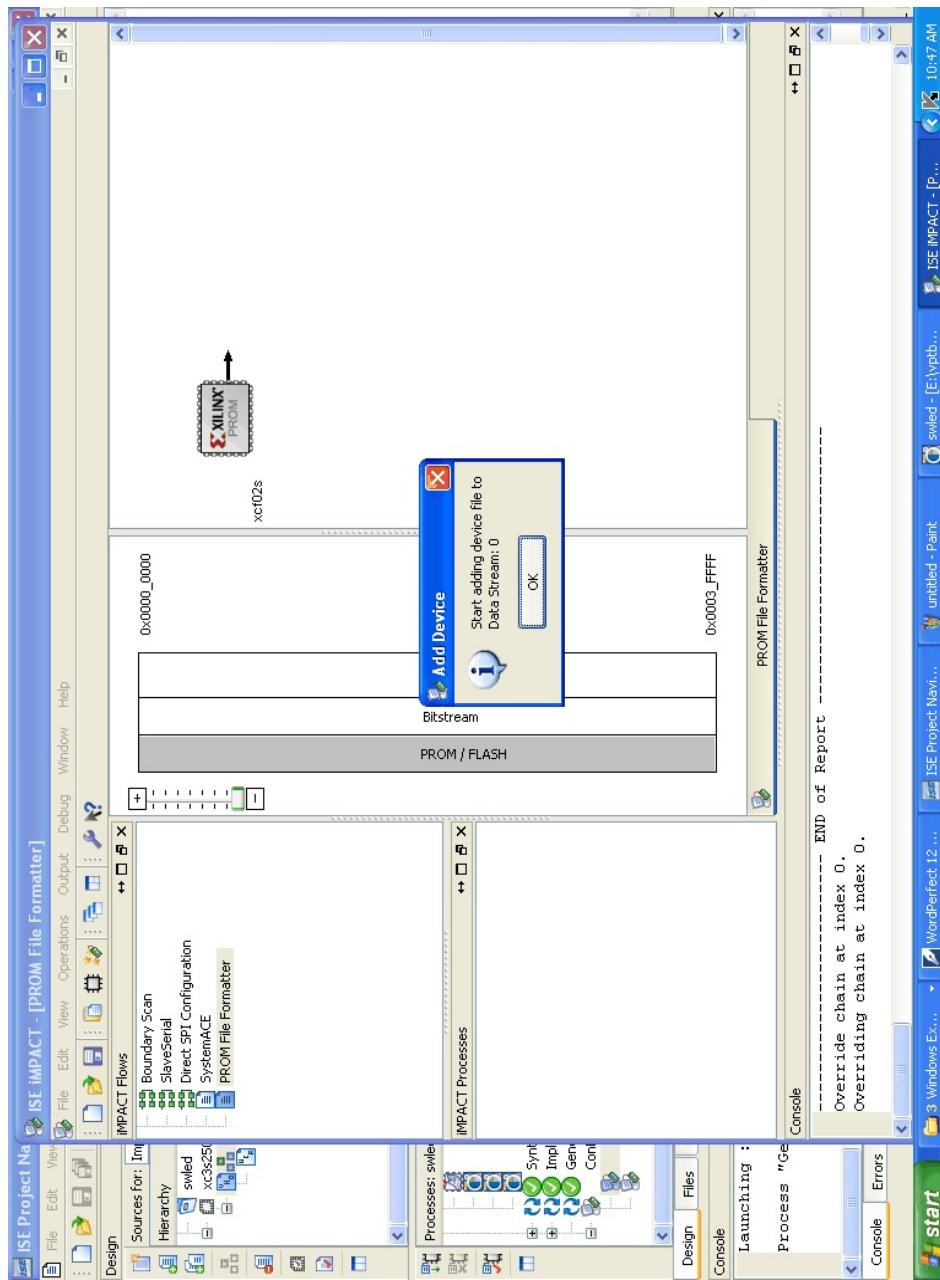
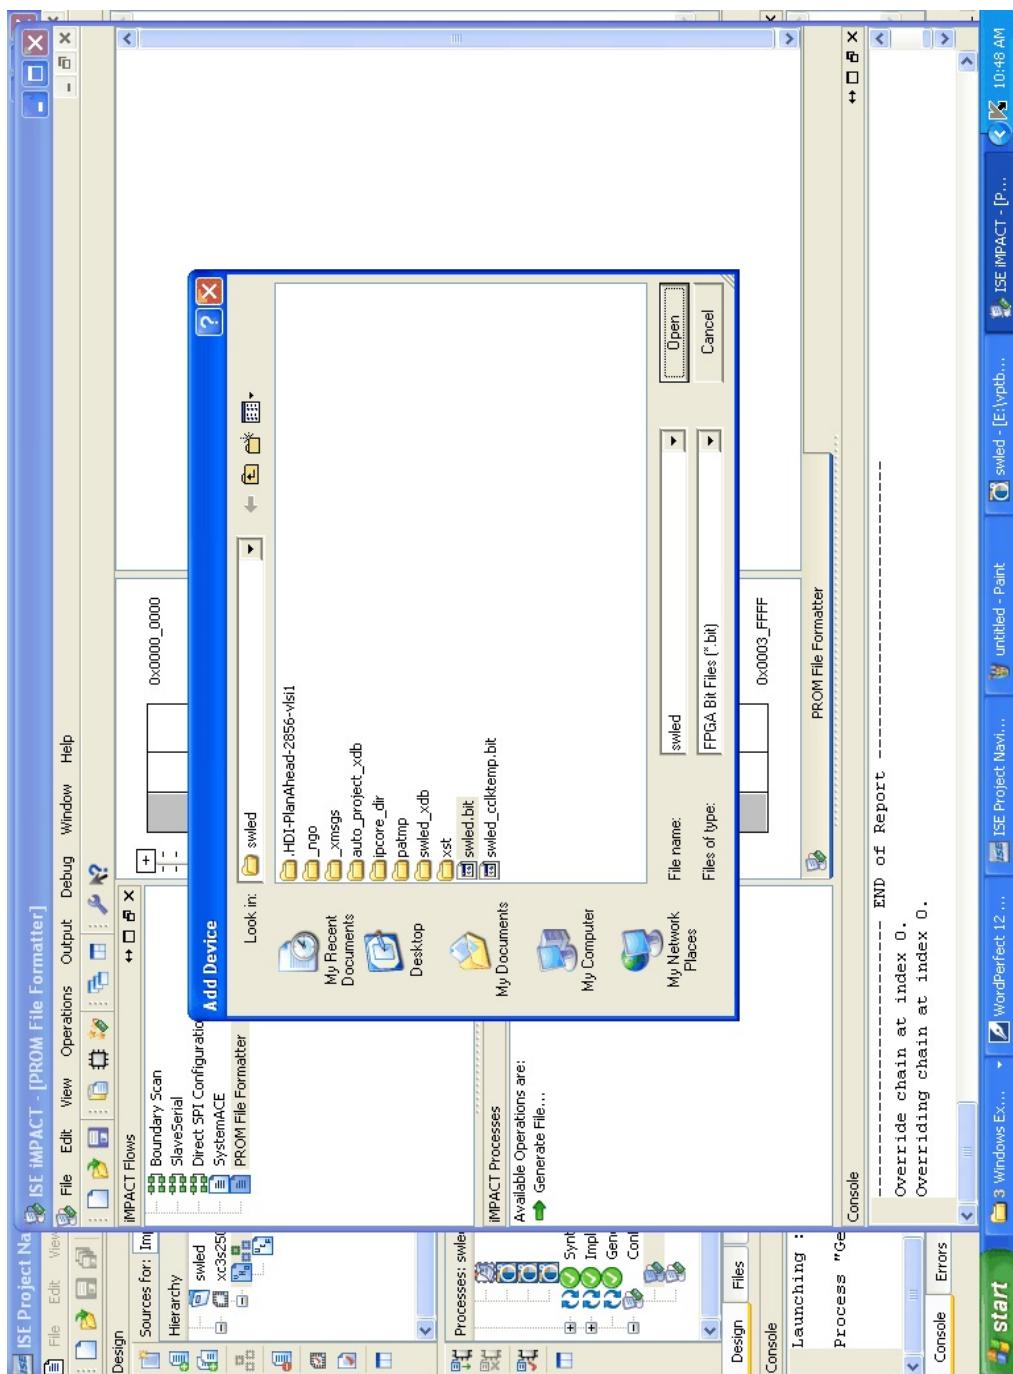
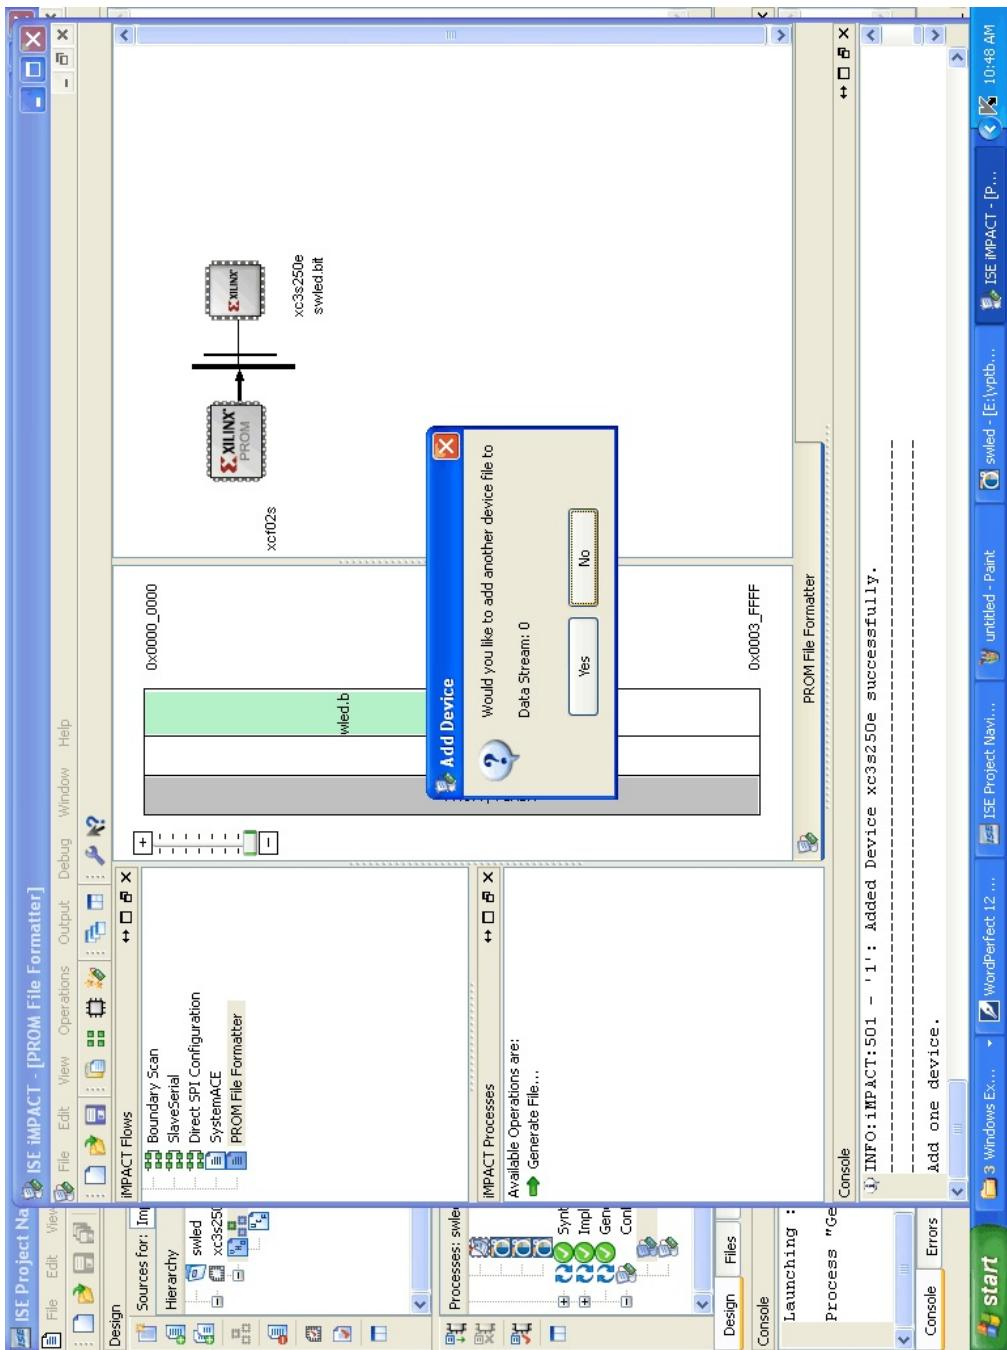

Figure-48
Figure-49
Figure-50
20. A dialog box named **Add Device** opens in that click **Ok** as shown in **Figure-48**. Now a new window named **Add Device** which has the **.bit** file opens,in that window select the respective **swled.bit** file (for eg.) and then click **Open** (refer **Figure-49**).The **Add Device** dialog box appears in that click **No** and then **Ok** (refer **Figure-50,51**).